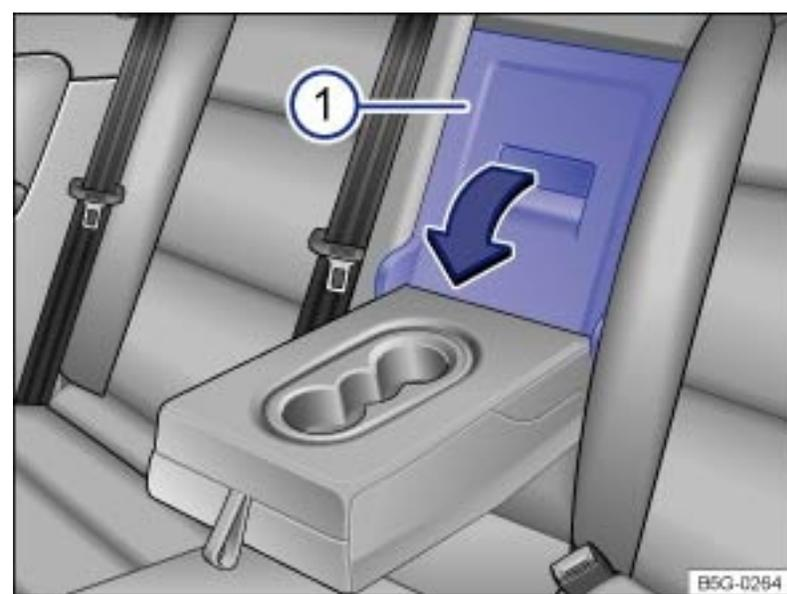

Fig. 99 In the rear seat backrest: Opening the luggage compartment pass-through.
- ▶ Pull the release lever in the direction of the arrow → Fig. 99 ① and fold the pass-through cover all the way forward.